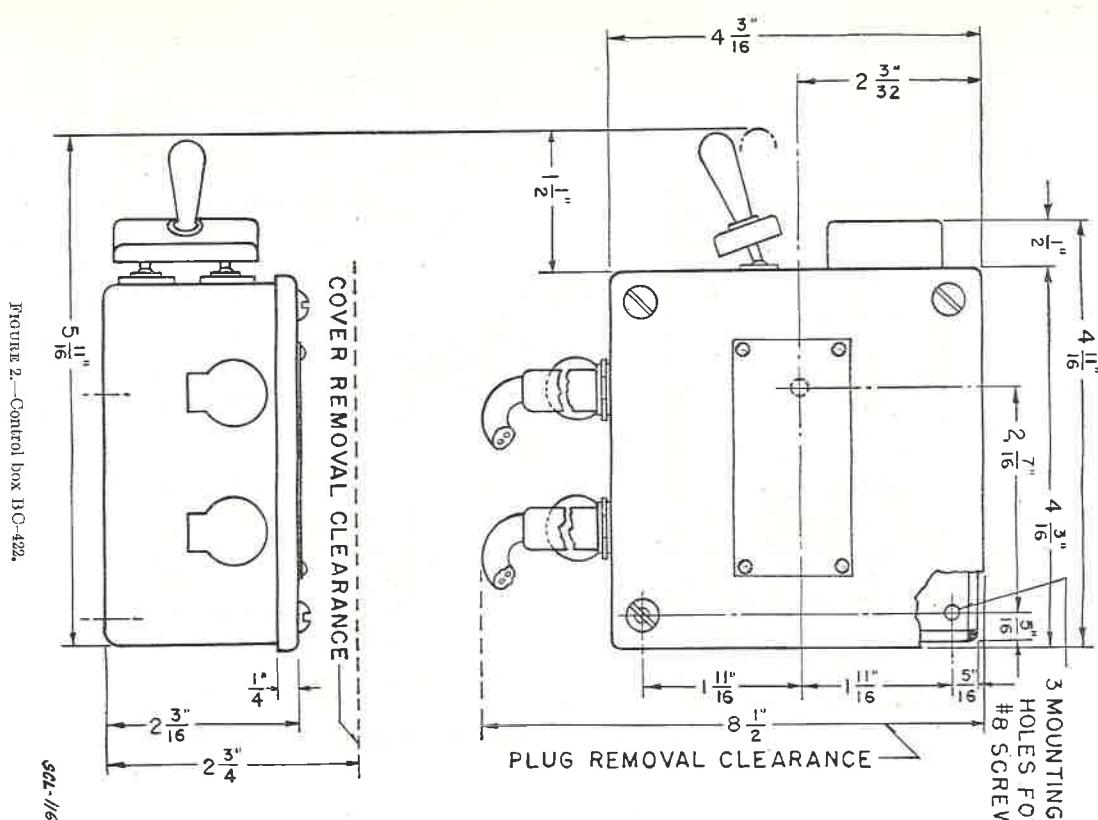

FIGURE 2.—Control box BC-422.
*b. Control box BC-422 (fig. 2).*—Two control boxes BC-422 are used in this installation, one for the tank commander and one for the radio operator. Control box BC-422 consists of a sheet steel box approximately 4 inches long by 4 inches wide by 2 inches deep, with a cover. In it are mounted: one 10,000-ohm, wire-wound potentiometer for volume control; one INTERPHONE-RADIO transfer switch consisting of two double-pole, double-throw toggle switches operated together by a common switch handle; two jacks, one for a headset and one for a microphone; and one 16-point terminal block which connects the unit to the rest of the system.